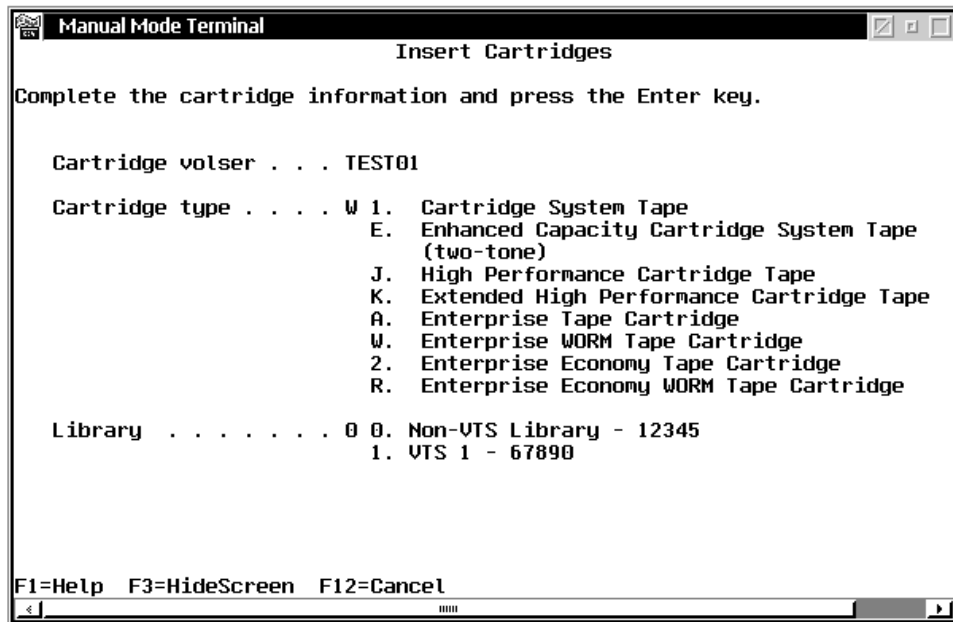

Figure 219. Manual Mode Insert Cartridges Window
- F5** Allows you to add volumes manually to the 3494. The Insert Cartridges window opens, which contains prompts for cartridge insertion (see Figure 219 on page 326).
2. In the Insert Cartridges window (Figure 219 on page 326), the volser of the cartridge to be inserted. The cartridge volser is the set of up to six alphanumeric characters on the label attached to the end of the cartridge.